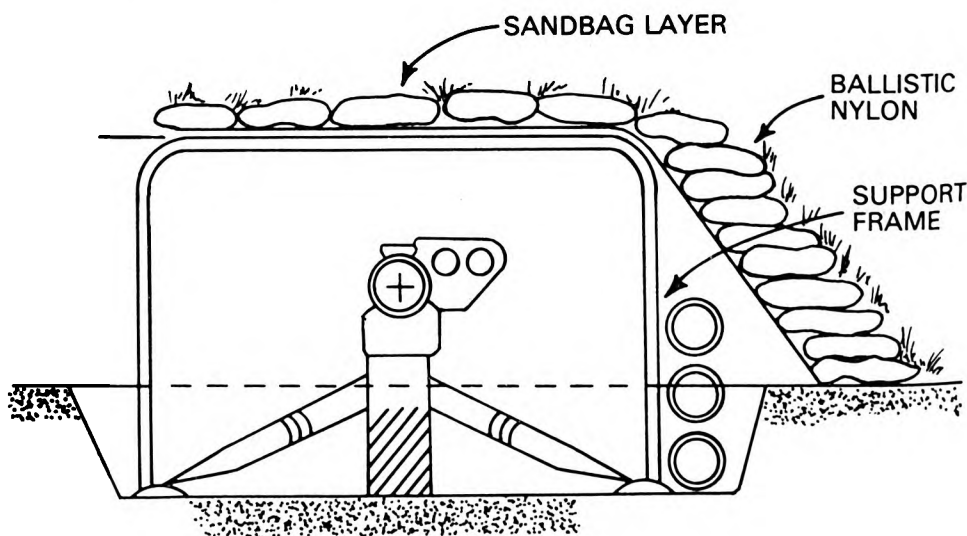

Figure 2.
e. Overhead cover is provided by the TOW cap in mechanized units. This consists of digging the TOW cap into approximately a 24-inch hole. The bottom of the lower blankets are not connected and allow a missile pit to be dug outside the TOW cap frame (figure 2). The TOW system still employs the kneeling position.